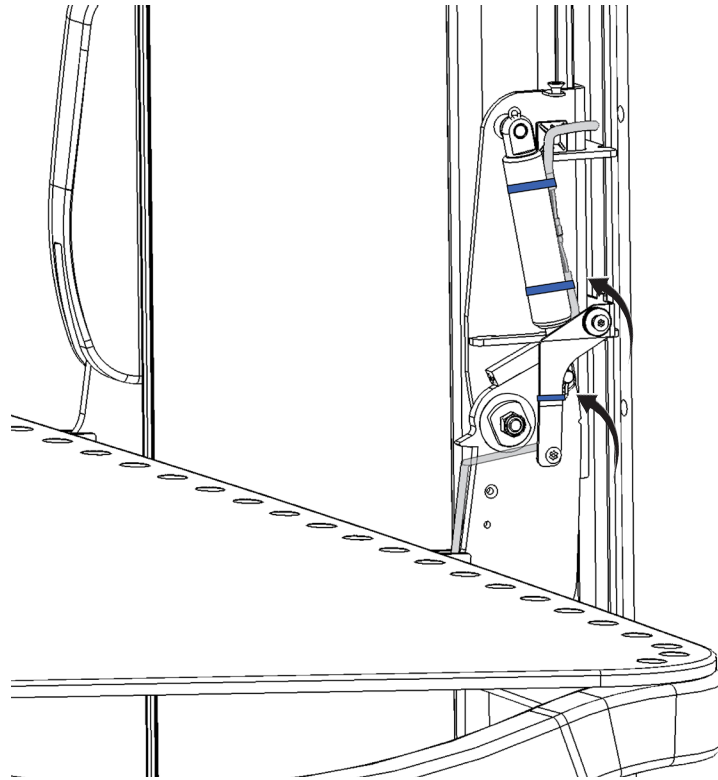

Fig 12.9c
- Secure the lower cable to the gas strut and pod mounting bracket using the supplied blue cable ties, in the same manner as the upper cable, as shown in Fig. 12.9c.